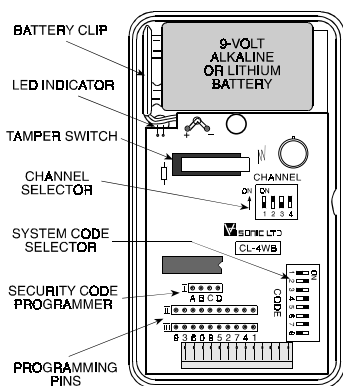

Figure 1 - Components Layout
The CL-4WB has an 8-position DIP switch, marked CODE, as shown in Figures 1 and 2. Each switch (1 through 8) may be set to ON or OFF, to create a unique digital system code that differs from that used by other wireless systems that may be operating in the vicinity.
The channel selector consists of a 4-position DIP switch, marked CHANNEL, as shown in Figures 1 and 3. The channel code transmitted by the CL-4WB is selected by switching the corresponding channel key (1, 2, 3 or 4) to ON.